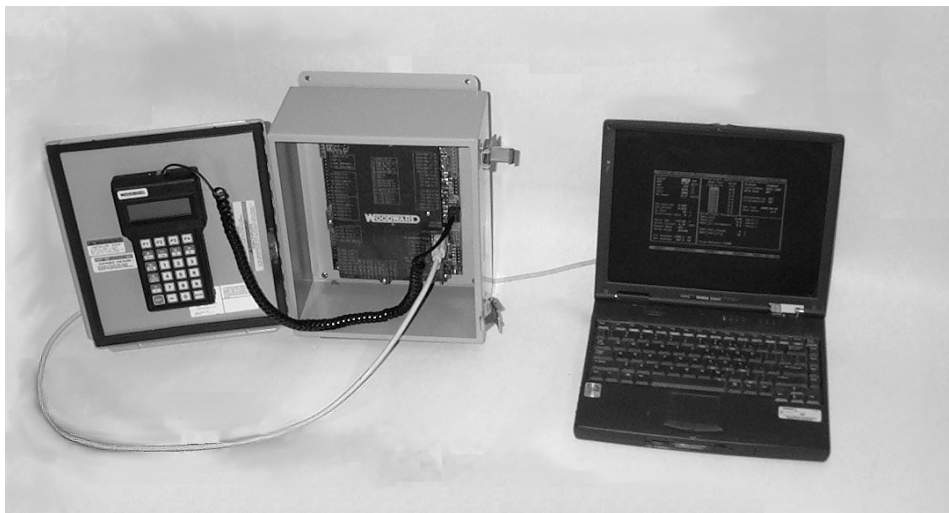

Figure 2-9. PC Communications
Communication with the system is via a computer (PC) interface or by the hand-held terminal. Control setup and tuning is accomplished through the PC interface screens (see Figure 2-9).